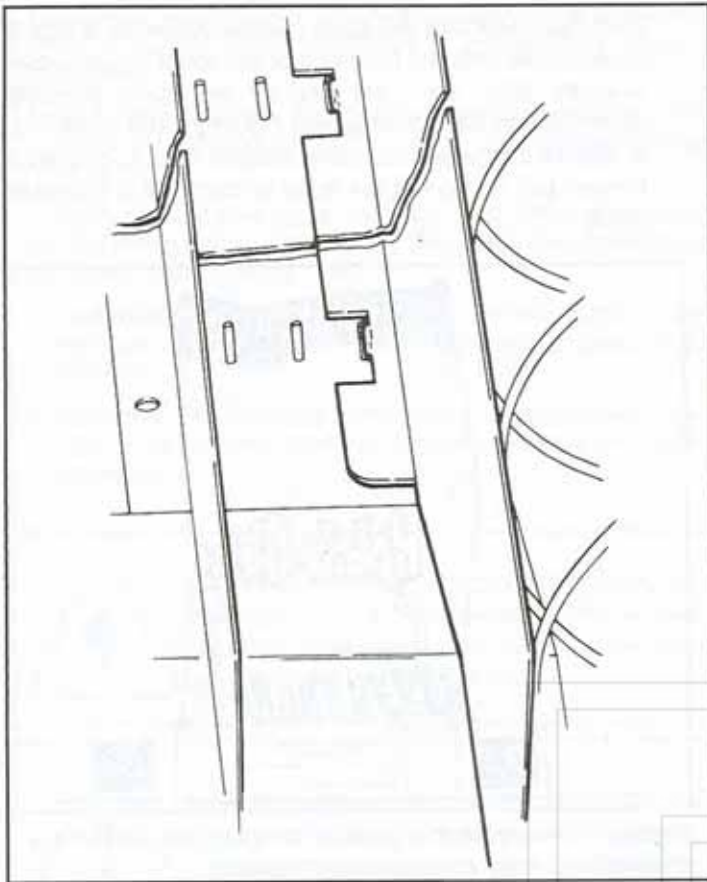

Figure 3. Alignment of moveable product spacers.
5. **Product Spacers, 3-Selection Shelf.** A product spacer is used to reduce the width of the product area and should be used on any 3-selection snack shelf where the product width is 4-1/2" or less. Spacers should fit within 1/8" of the product but should not fit tight against the product. There are three positions in each snack space where these spacers can be placed. To install the spacer, align the lock ears (on the lower edge of the spacer) with one of the three sets of slots (one front and one rear). (see Figure 3). Push the spacer to the rear to allow the ears to enter the slots, then allow the spacer to move forward. Be sure the ears are in the same set of slots, front and rear. (see Figure 3). Continue loading all spirals adjust with spacers where needed in the top shelf. Return the top shelf to the vend position and following this procedure load the remainder of the snack spiral shelves.